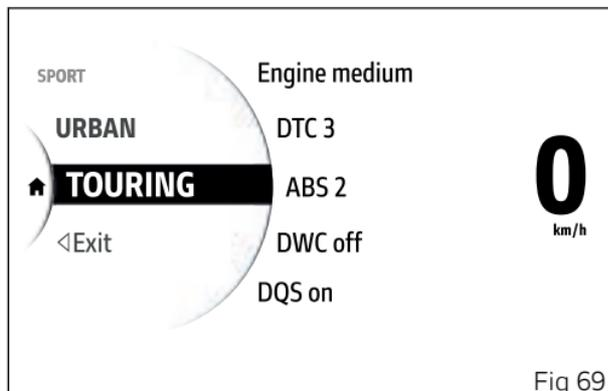

Fig 69
- Press and hold the MODE/ENTER button (3) for a long time.
- The dedicated screen is displayed (Fig 69) where, using buttons (1) and (2), it is possible to scroll through the available Riding Modes and display the parameters with the relevant set values.
- Press the MODE/ENTER button (3) to confirm.